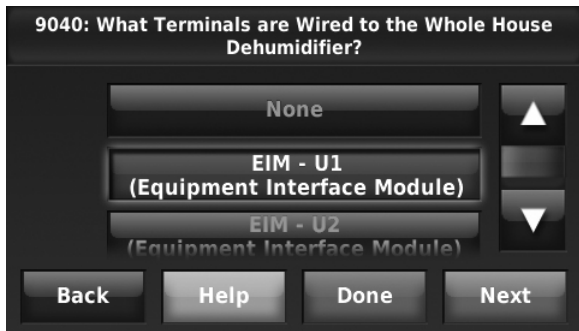

Fig. 225.
4. Select the terminals wired to the Whole House Dehumidifier. See Fig. 225.